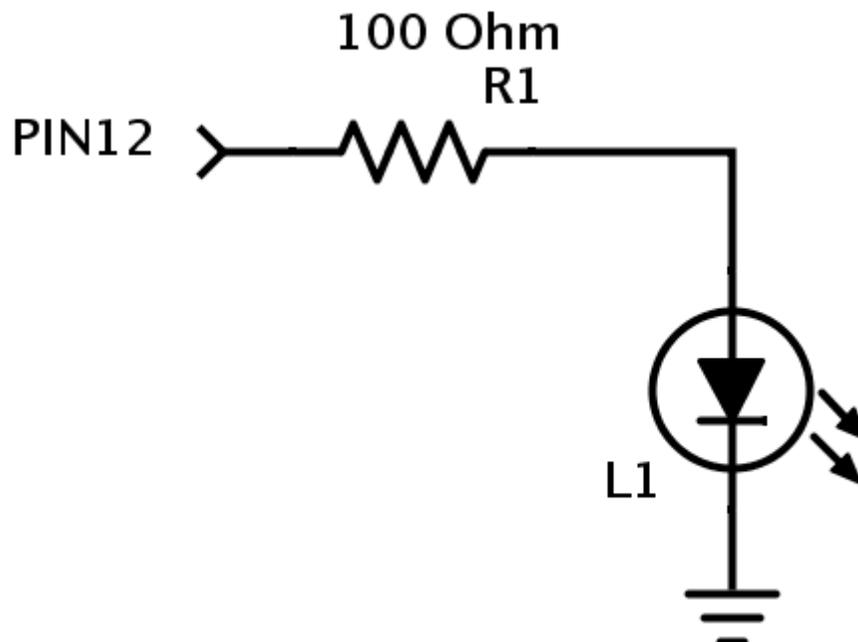

FIGURE 6 TRANSMITTER Electrical Schematic for the Transmitter
8. Set up the Receiver circuit as seen in Figure 6, be sure to position the Photodiode and the LED on the transmitter so that they are facing each other. This step is crucial to correct execution of the system, if the LED is not focused on the photodiode then the photodiode circuit will not be driven properly.